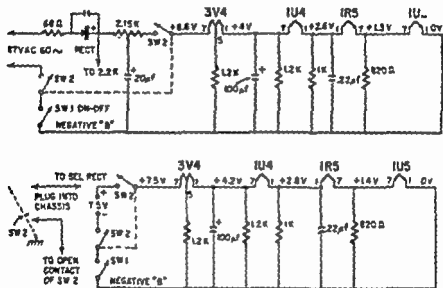

Fig T-2. Power supply and filament circuit of three-way radio. The upper figure shows ac operation, the lower battery operation.
**Service:** Generally, this condition is due to excessive filament current. First, check to ascertain if the receiver has shunt resistors in the filament circuit. See Fig. T-2. If none are found, about the only thing to do is insert filament shunts, provided the owner is willing to pay the cost. Correct values must be worked out.